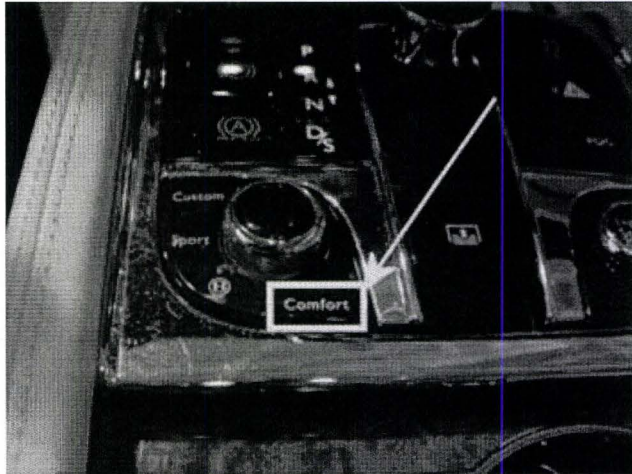
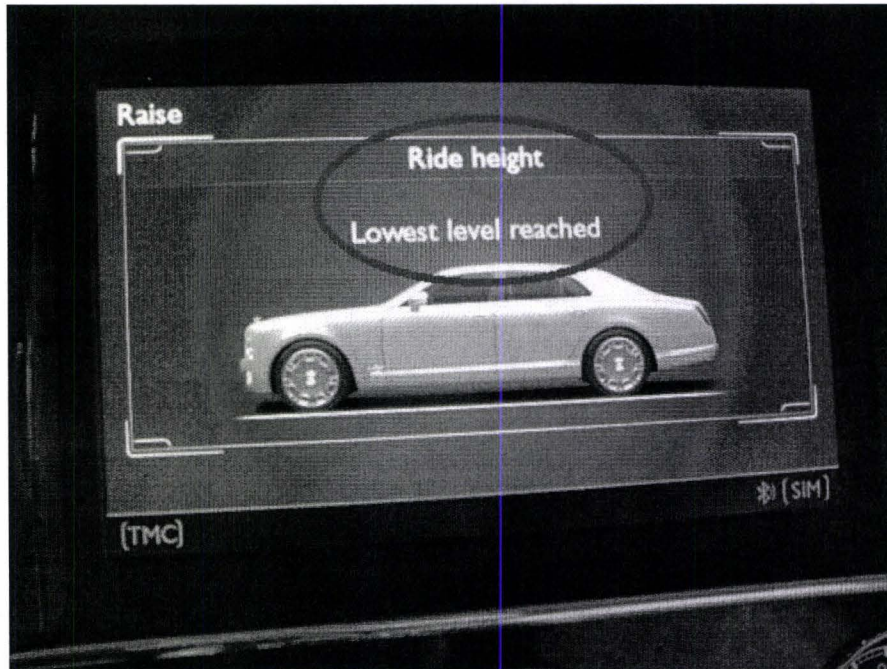

Figure 3
Figure 4
2. Before starting the software update ensure the drive dynamics switch is in Comfort mode (Figure 3) and the ride height is at the lowest setting as shown in Figure 4